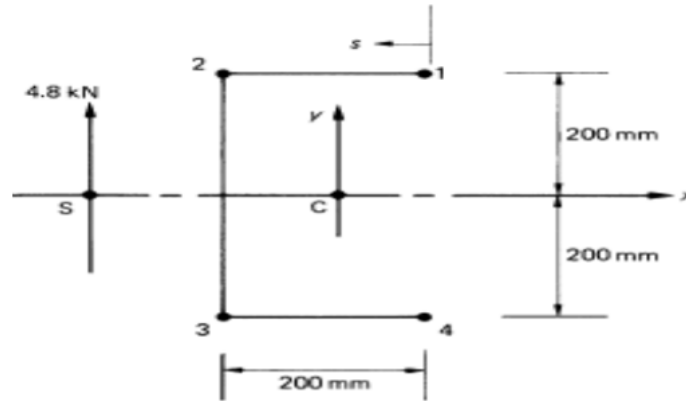

Figure 4
- (b) Calculate the shear flow distribution in the channel section shown in Figure 4. produced by a vertical shear load of 4.8kN acting through its shear center. Assume that the walls of the section are effective in resisting only shear stresses, while the booms, each of boom area is  $300 \text{ mm}^2$ , carry all the direct stresses. [7M]